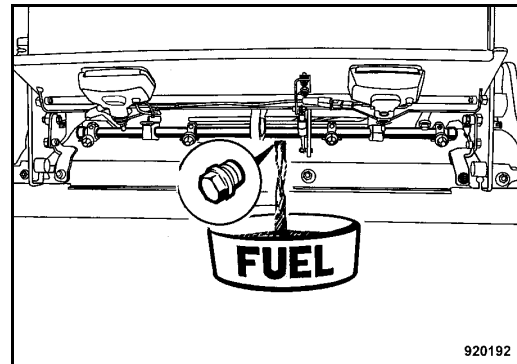

Fig. 159
- Unscrew the plug (Fig. 159) from underneath the fuel tank and let the fuel run out.